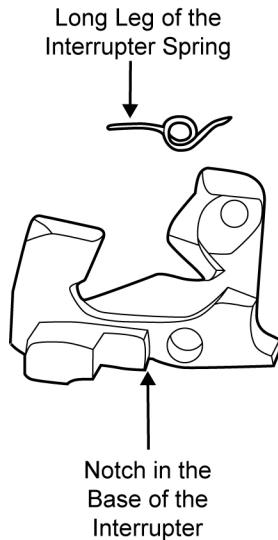

Figure 69. The Interrupter and Interrupter Spring.
j. If present, install the interrupter onto the trigger, ensuring that the notch in the base of the interrupter is seated on the forward edge of the right side of the trigger. Install the interrupter spring with the long leg of the spring facing pointing forward. Ensure that the hole in the base of the interrupter and the coil of the interrupter spring are aligned with the holes in the trigger. Refer to Figure 69.